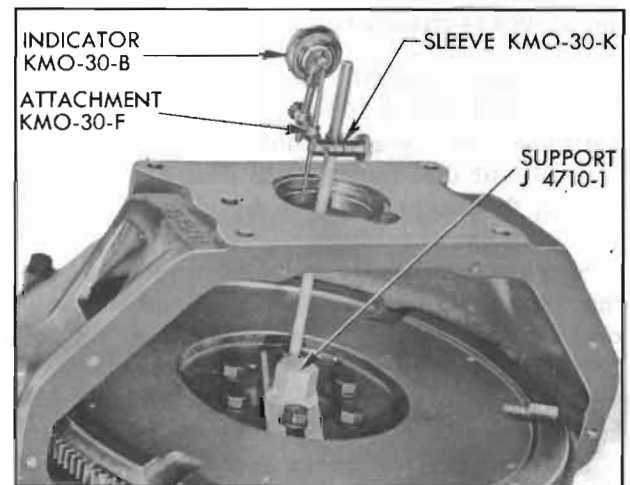

Figure 4-16—Checking Alignment of Housing at Pilot Hole
2. Attach Indicator Support J 4710-1 to flywheel with two flywheel bolts. Mount Dial Indicator KMO 30-B and Hole Attachment KMO 30-F on pilot with Sleeve KMO 30-K. Adjust ball end of hole attachment to bear against side of pilot hole in flywheel housing. See figure 4-16.
4. Install dial indicator as shown in figure 4-16, and check run-out at pilot hole in housing.